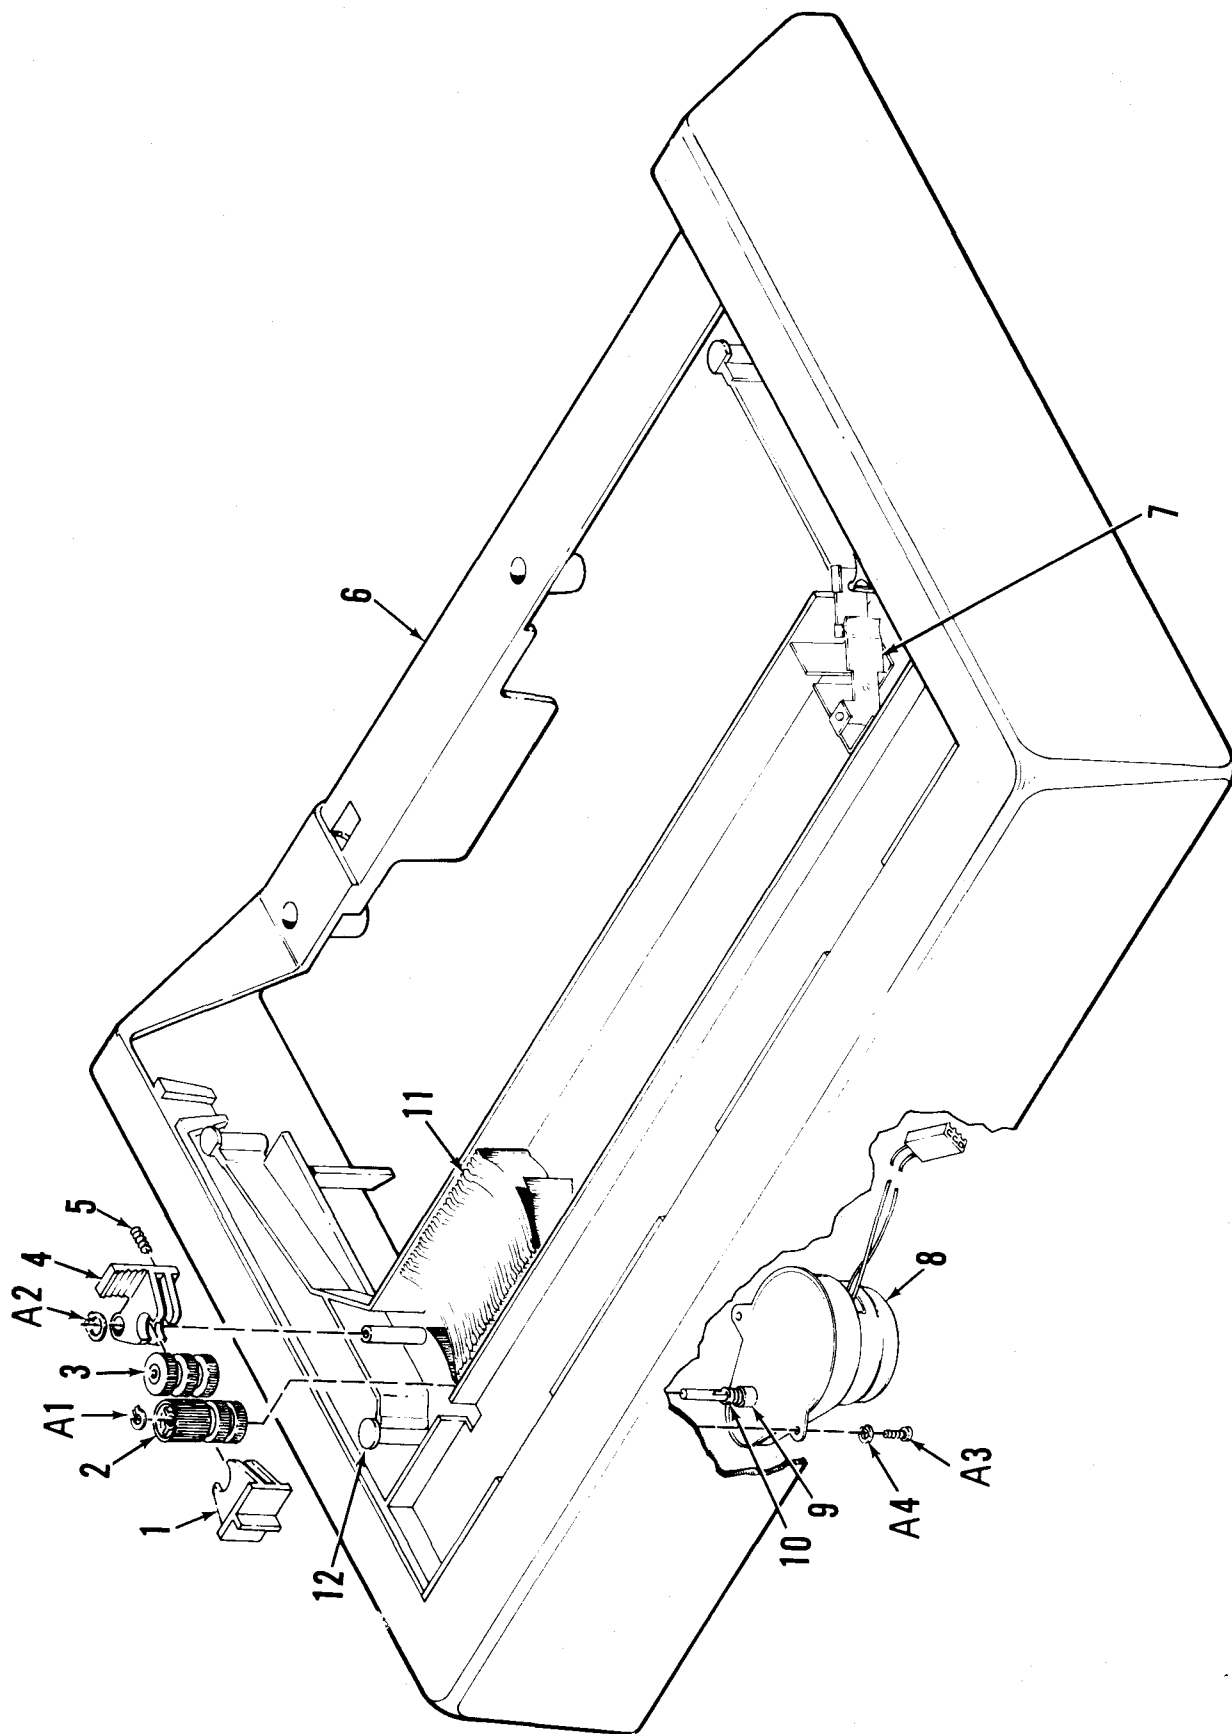

Figure 8-2. BODY COVER ASSEMBLY
(Figure 8-2)
NOTE: The ribbon tensioner assembly is made up of items 7.1 through 7.4 which are not called out on Figure 8-2.
NOTE: The ribbon drive motor assembly is made up of items 8.1 through 8.3 which are not called out on Figure 8-2.